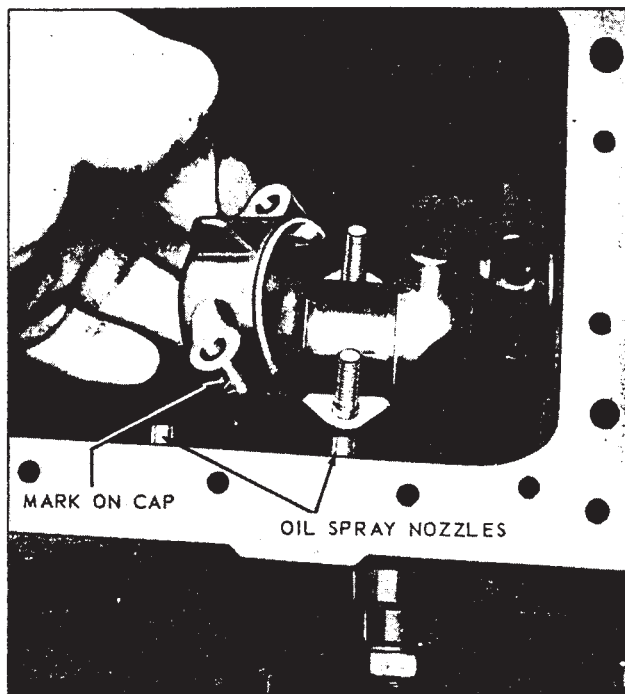

Figure 10-10. Connecting Rod Cap Removal
c. Replace the caps on the rods immediately so that they are in the correct position for reassembly. A number is stamped on the side of the rod and cap to match each connecting rod with its corresponding cap. These numbers must be on identical sides of the rod in reassembly. (See figure 10-10.)